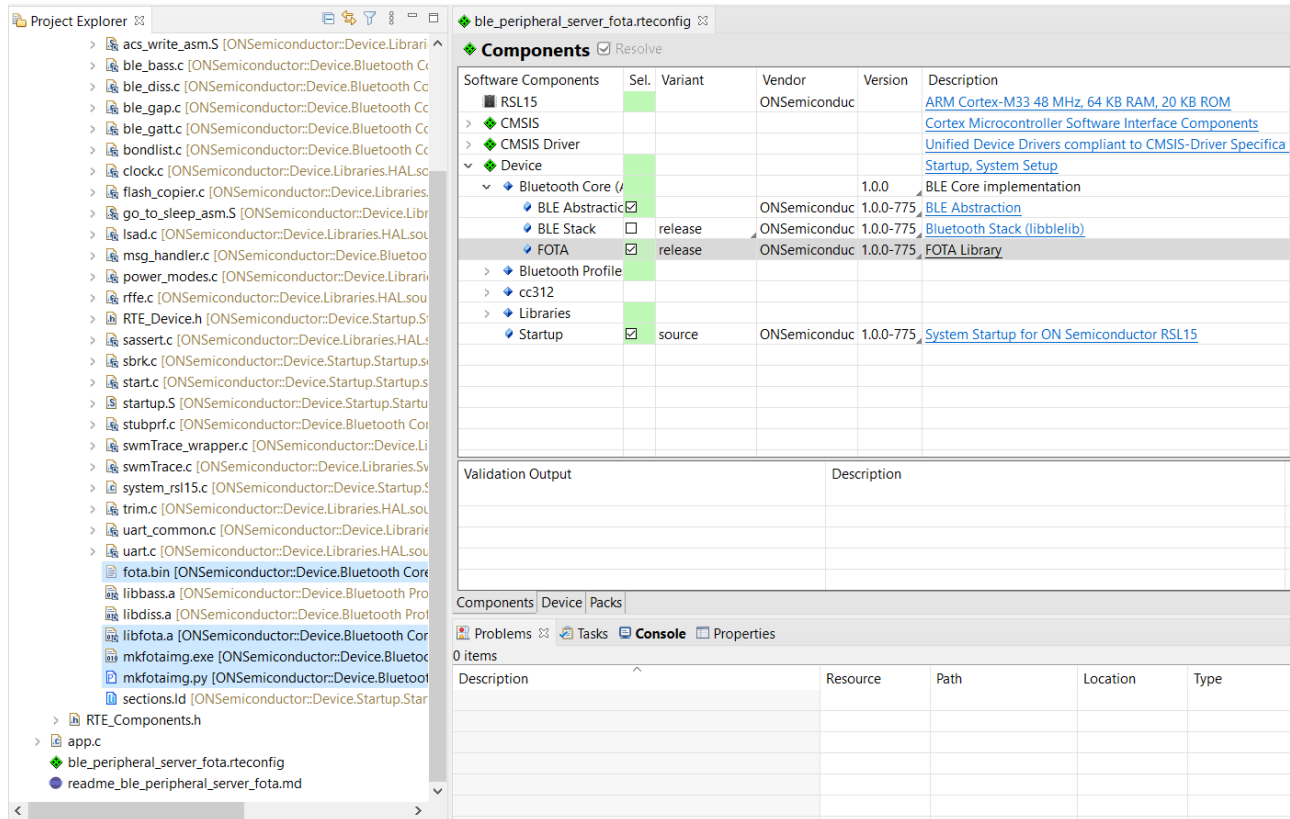

Figure 6. Files in FOTA Sample Project
3. The C/C++ perspective opens and displays your newly copied project. In the **Project Explorer** panel, you can expand your project folder and explore the files inside your project, as seen in the "Files in FOTA Sample Project" figure \(Figure 6\).
Project" figure (Figure 6). On the right side, the *ble\_peripheral\_server\_fota.rteconfig* file displays the selected software components, including the new component named **FOTA**. If you expand **RTE > Device > <device>**, you can find the FOTA library (*libfota.a*), the FOTA Bluetooth Low Energy Stack binary file (*fota.bin*), and *mkfotaimg.exe*. These files are automatically added to your sample project once the FOTA component is selected.